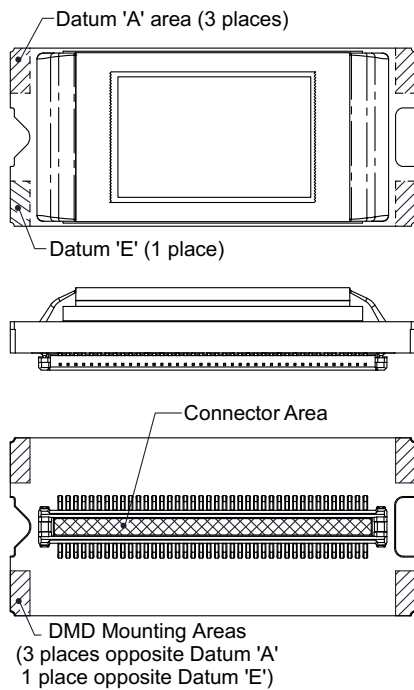
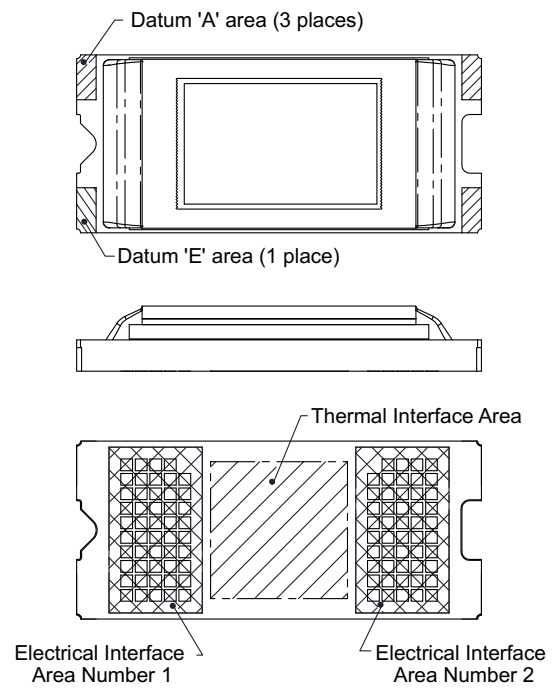

Figure 3. System Interface Loads for FQE
Figure 4. System Interface Loads for FQD
(1) See Figure 3 and *Mechanical, Packaging, and Orderable Information* for diagrams.
(2) See Figure 3 and Figure 4 for diagrams.